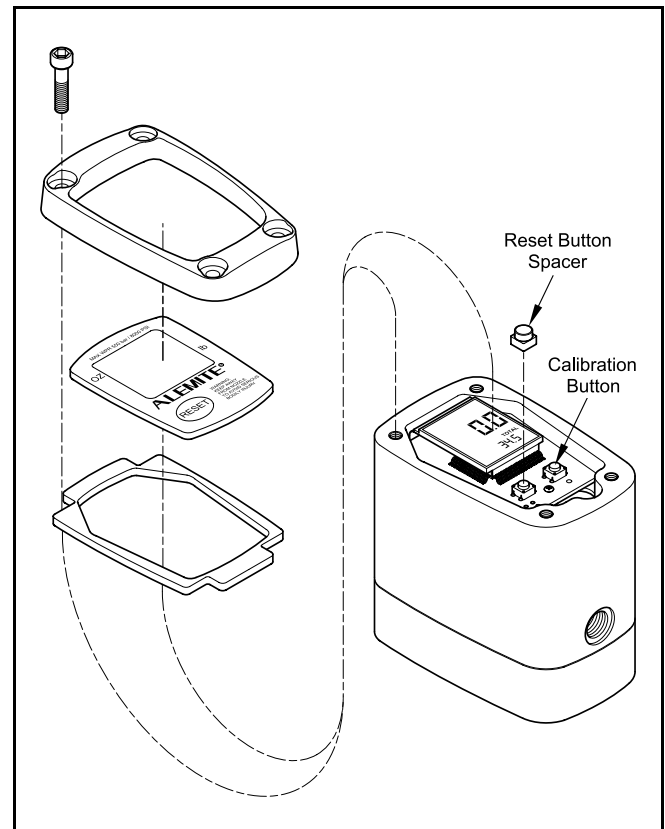

Figure 1 Electronic Grease Meter Model 3530 Series
- See **Figure 1**.
IMPORTANT: Make sure the **Reset Button Spacer** is positioned properly. See **Figure 1**.